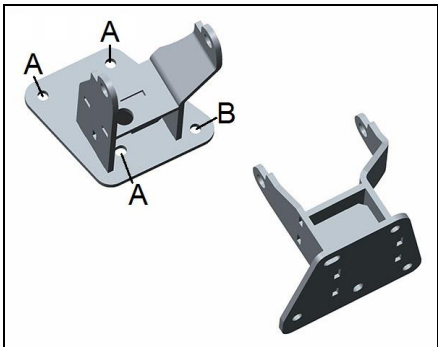
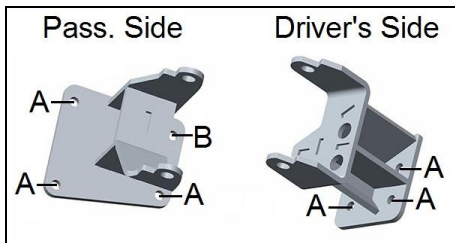

Figure 1 – V6 Driver's Side
Figure 3 – LT1/LT4-V8
- Using the stock bolts, install the Hooker engine brackets onto the cradle, as shown in **Figures 1 and 2** for V6 applications and **Figure 3** for LT1/LT4-V8 applications. The additional base plate holes (**marked B**) can be scribed, drilled and fitted with fasteners, if desired, for higher HP applications. Leaving these holes undrilled will have no effect on the strength/integrity of a typical swap installation.